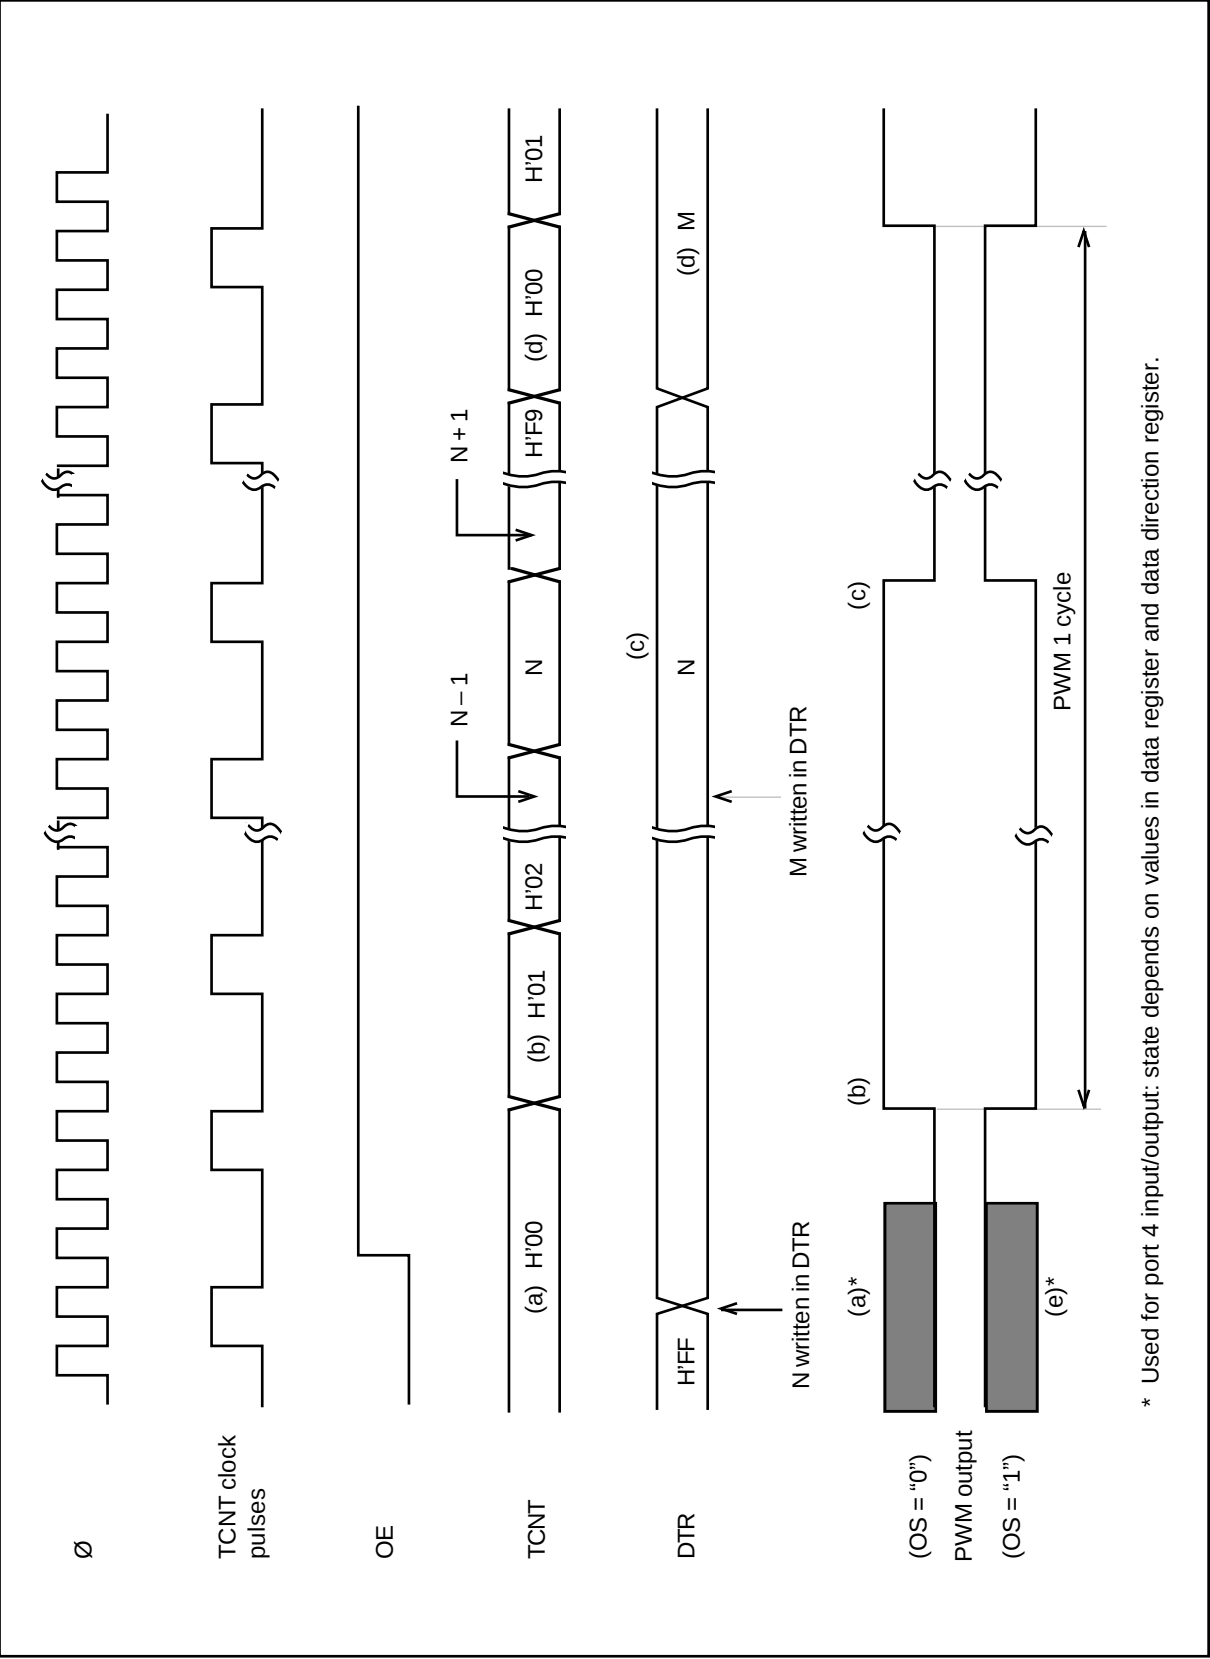

Figure 8-3. PWM Timing
Figure 8-3 is a timing chart of the PWM operation.
(1) Positive Logic (OS = “0”)
① **When (OE = “0”) – (a) in Figure 8-3:** The timer count is held at H’00 and PWM output is inhibited. (Pin 46 (for PW0) or pin 47 (for PW1) is used for port 4 input/output, and its state depends on the corresponding port 4 data register and data direction register.) Any value (such as N in Figure 8-3) written in the DTR becomes valid immediately.
② When (OE = “1”)
- i) The timer counter begins incrementing. The PWM output goes High when TCNT changes from H’00 to H’01, unless DTR = H’00. [(b) in Figure 8-3]
- ii) When the count passes the DTR value, the PWM output goes Low. [(c) in Figure 8-3]
- iii) If the DTR value is changed (by writing the data “M” in Figure 8-3), the new value becomes valid after the timer count changes from H’F9 to H’00. [(d) in Figure 8-3]
(2) Negative Logic (OS = “1”) – (e) in Figure 8-3: The operation is the same except that High and Low are reversed in the PWM output. [(e) in Figure 8-3]